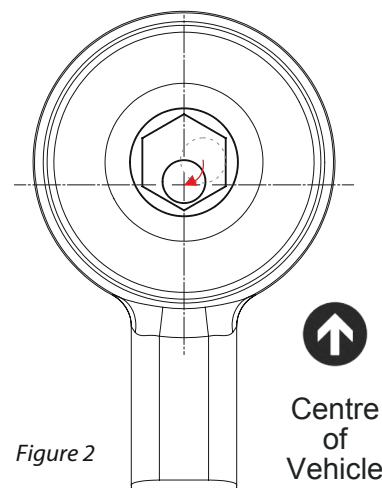

Figure 2
6. For maximum camber use a 24mm hex spanner to rotate the sleeve so that the bore is positioned as shown in figure 2.